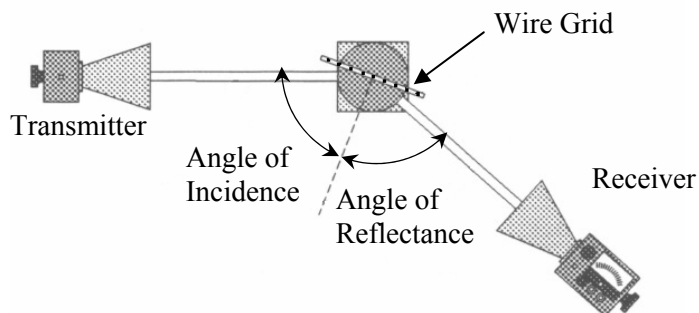

Fig. 7. Microwave receiver, transmitter and wire grid arrangement
3. Place the wire grid so that the center pin of the goniometer hinge fits into the recess in the bottom of the grid frame (see Fig. 7). Align the grid so that it is at  $40^\circ$  on the goniometer scale.
**Question 1-1:** What is the angle (labeled "Angle of Incidence" in Fig. 7) between the incident microwave beam and the normal to the plane formed by the wire grid array?